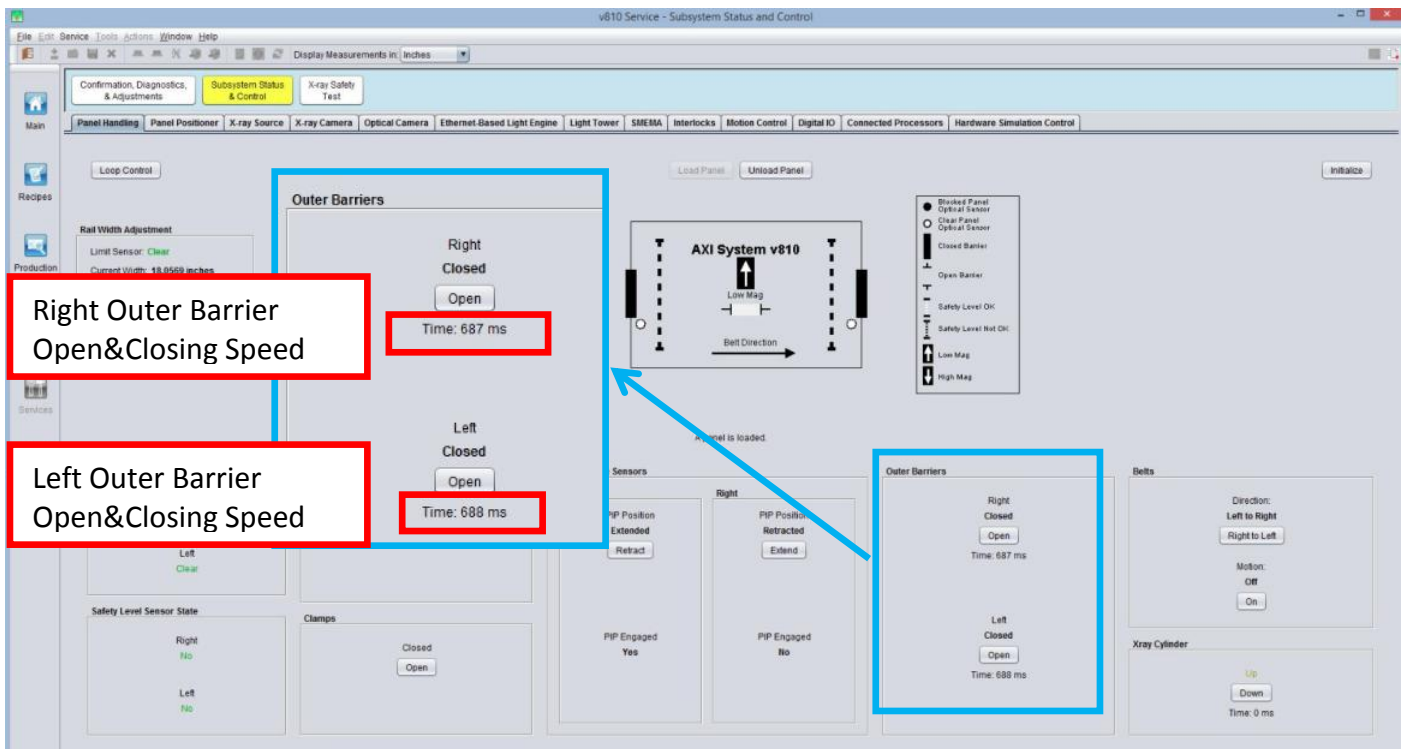

Figure 25 Outer Barrier Opening & Closing Duration
30. Open & Close particular Outer barrier which perform Valve & Speed controller upgrading. Record down Opening & Closing duration as below Figure 25.